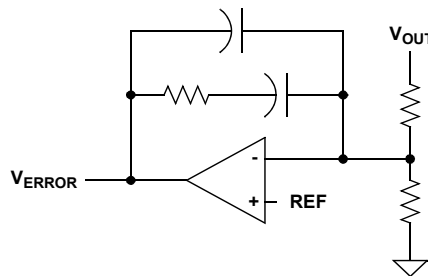

Figure 10. Type 2 Error Amplifier
The loop compensation is placed around the Error Amplifier (EA) on the secondary side of the converter. The primary side amplifier located in the control IC is used as a unity gain inverting amplifier and provides no loop compensation. A Type 2 error amplifier configuration was selected as a precaution if operation in continuous mode occurs at some operating point (Figure 10).